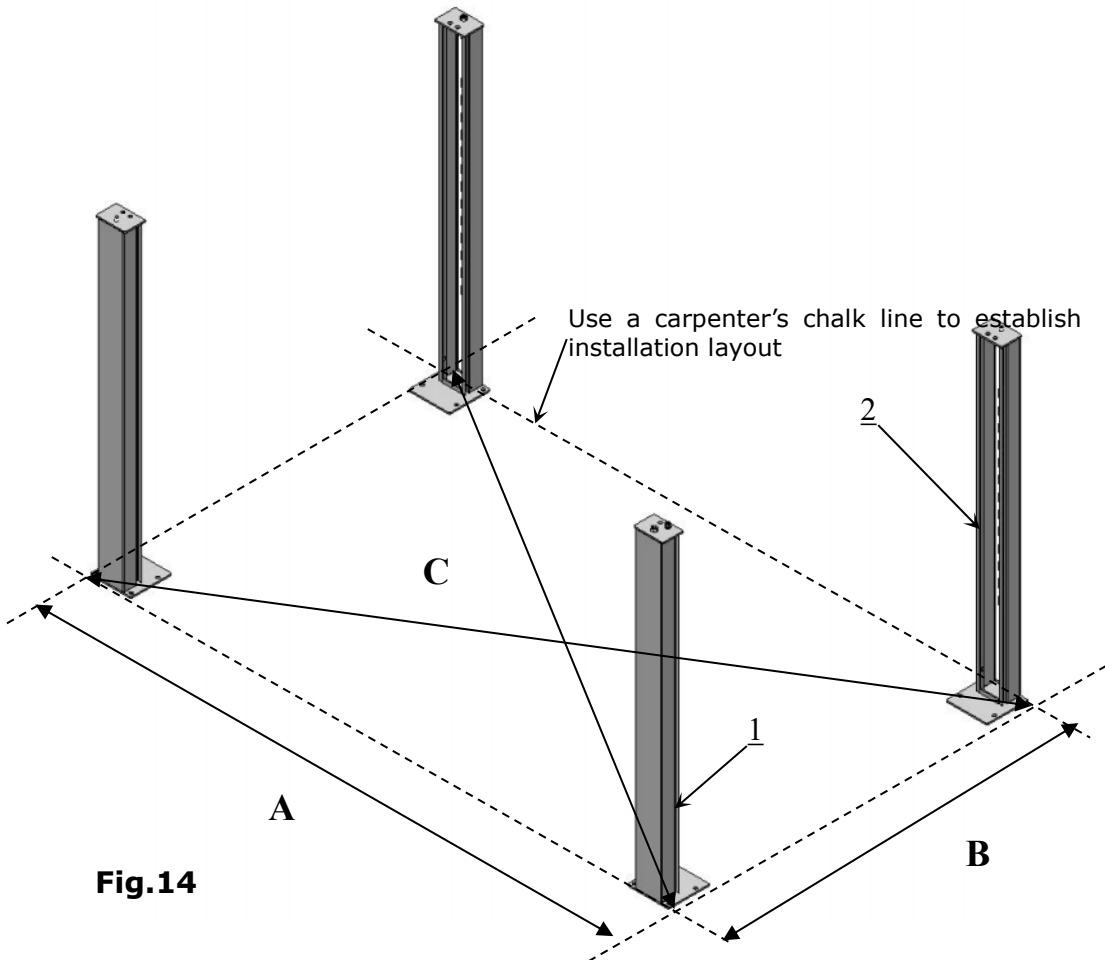

Fig.14
C. Use a carpenter’s chalk line to establish installation layout (see Fig 14) . Place the posts according to the installation dimension.